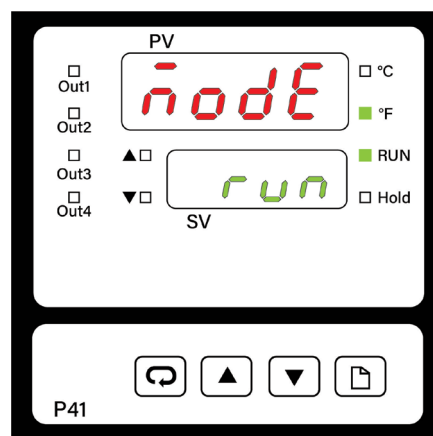

Figure 19
4. Press the  PAGE key until you see "mode" (*mode*) in the upper display. (See Figure 19).
5. Press the  UP or  DOWN keys to select "run" (*run*) in the lower display. (See Figure 19).
6. Press and hold the  PAGE key (for about 5 seconds) until you see a green light next to "run". The controller is now running the firing profile you selected. (See Figure 19).